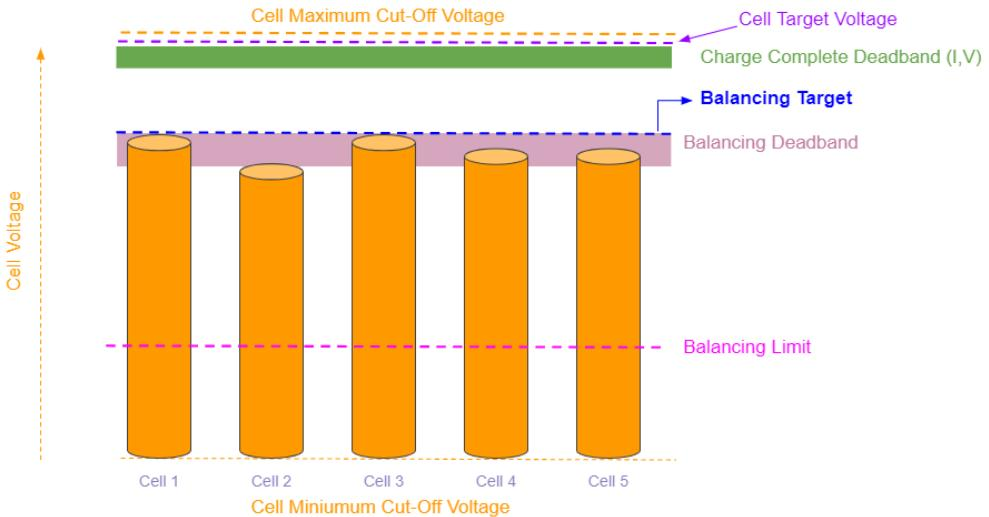

Figure 24 : Balancing Completed
- **Case 3 :** The balancing process is complete once all the cell voltages are within the ‘Balancing Deadband’. Figure 24 depicts the stage when all the cells have successfully undergone the balancing process.